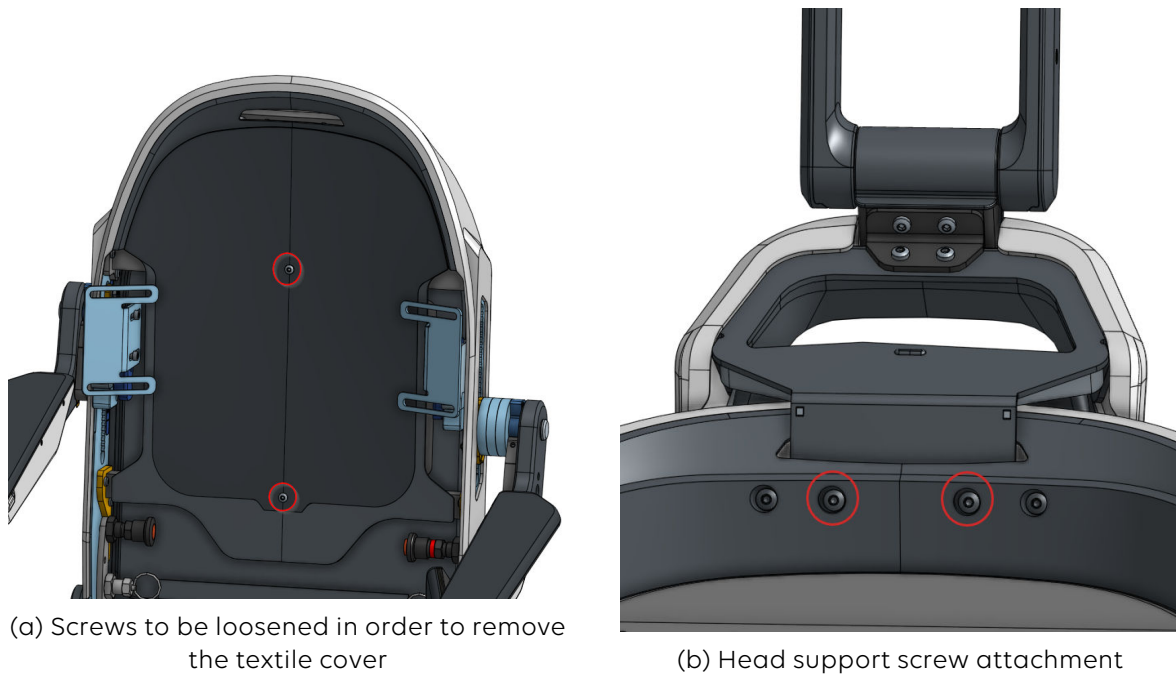

Figure 21. Attach/remove the head support
2. ([Figure 21, "Attach/remove the head support" \[29\]](#))
3. Insert the head support into the slot provided and secure the two supplied screws from below (recommended torque: 6Nm) ([Figure 21, "Attach/remove the head support" \[29\]](#))